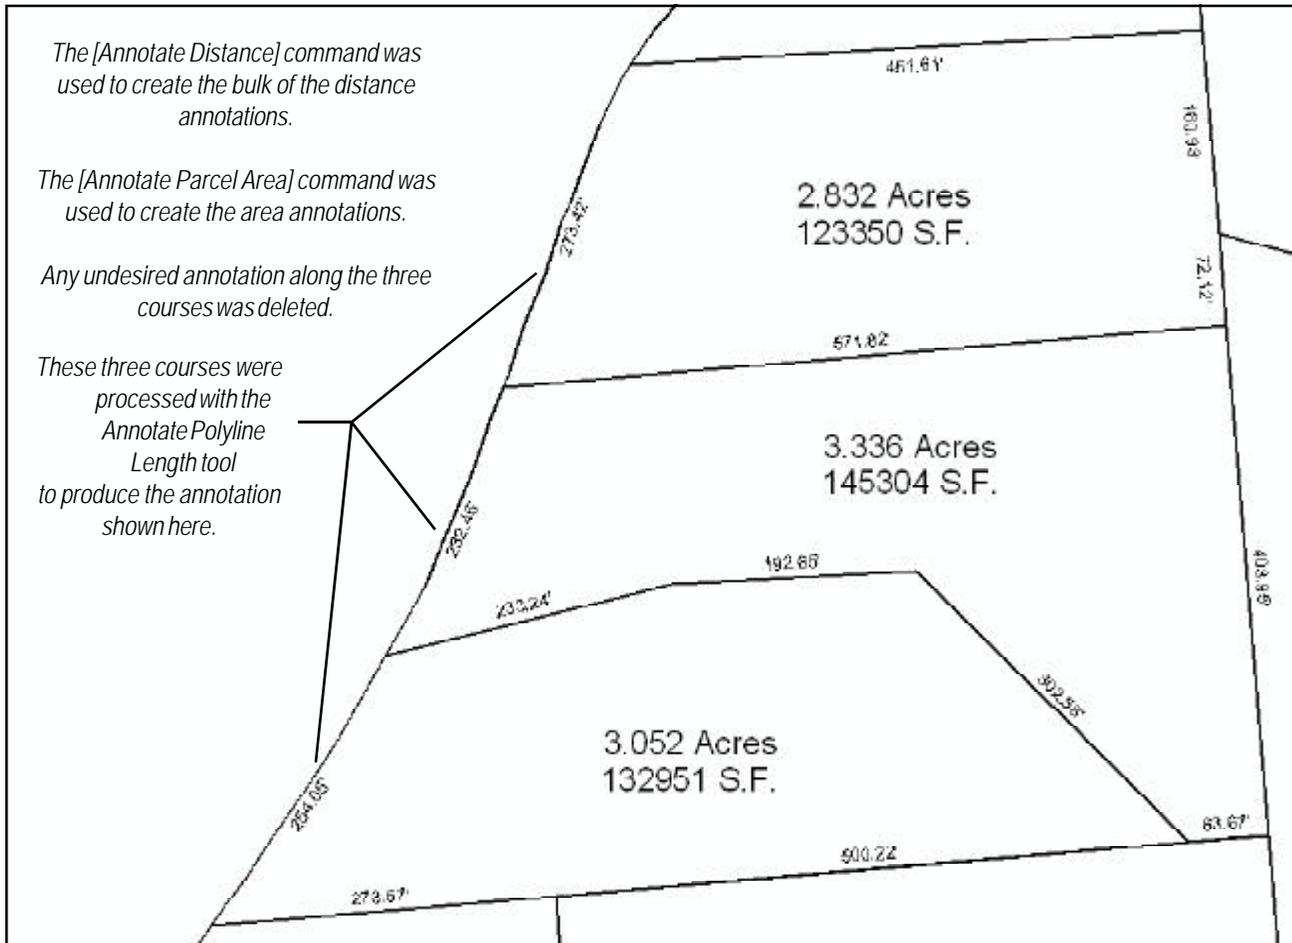

Figure 12 - Example of the application of the Annotate Polyline Length Tool
6. Shown in Figure 12 is an example of how the Annotate Polyline Length tool can be used in conjunction with the [Annotate Distance] and [Annotate Parcel Area] tools to produce a fully annotated tax map. In this figure the bulk of the distance annotations were created using the [Annotate Distance] command. The area annotation was created using the [Annotate Parcel Area] tool. The three courses on the left side of the figure were processed using the Annotate Polyline Length tool. Although it may not be apparent from the figure, the three courses are comprised of multiple small courses. By using the *Minimum Segment Length for Annotation*: parameter, we are able to set a minimum length that eliminates the annotations for these small segments. We then use the Annotate Polyline Length tool to create the annotation for these courses.